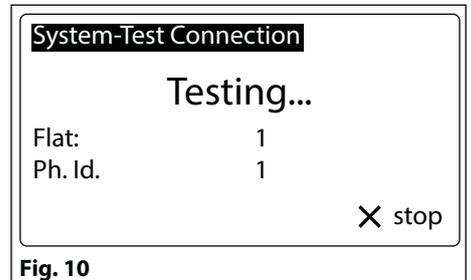

Fig. 10
- press “**5**” and init the test. Now display will look like **Fig. 10**.